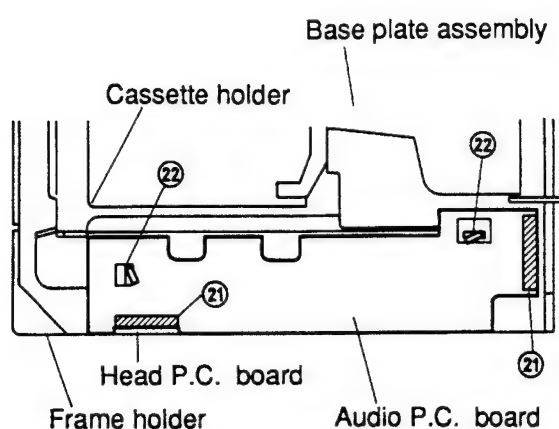

Figure 16
- (1) Remove two solders ②① and remove the parallel wire (7P) and the head PC board as shown in Figure 16.
- (2) Adjust the two claws ②② to the rectangular holes on the PC board and remove the PC board as shown in Figure 16.
- (3) After replacement, mount the new PC board following the removal steps in the reverse order.